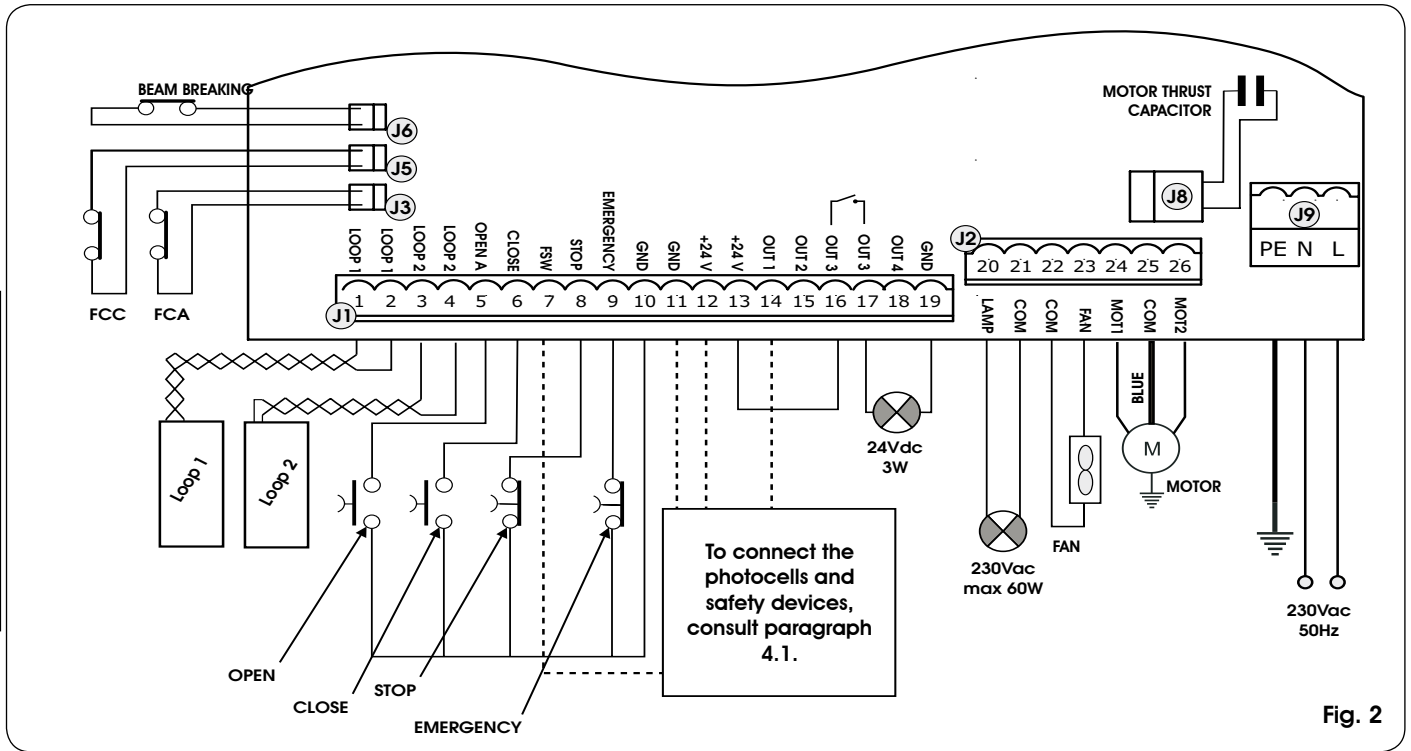

Fig. 2
- Connect the earth cable to the terminal on the J9 connector of the unit (see fig.2).
**4.2. J1 TERMINAL-BOARD - ACCESSORIES (FIG.2)**
Connect a 24 Vdc - 3 W max. indicator light, if any, to these terminals, following the instructions in fig. 2.
**4.3. J2 TERMINAL-BOARD - MOTOR - FLASHING LIGHT AND FAN (FIG.2)**
**4.4. J8 CONNECTOR - MOTOR CAPACITOR (FIG.2)**
**4.5. J9 TERMINAL-BOARD - POWER SUPPLY (FIG.2)**
**4.6. J3, J5 RAPID CONNECTORS - FOR OPENING AND CLOSING LIMIT-SWITCHES (FIG.2)**
**4.7 J6 CONNECTOR - BEAM BREAKING SENSOR (FIG. 2)**
**4.8. J11A,B,C CONNECTOR - QUICK-FIT CONNECTOR FOR EXTERNAL LOOP DETECTOR (FIG.2)**